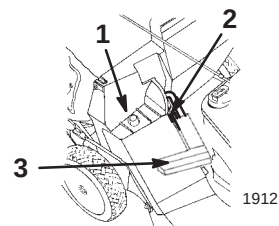
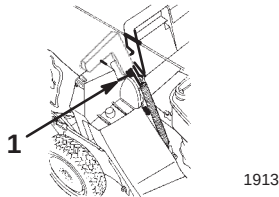

Figure 10
Figure 11
2. Ensure that the discharge door handle is fully forward and that the pin is engaged in the catch (Fig. 10).
- Slide the hole in the bag frame onto the retaining post on the discharge tunnel (Fig. 10).
- Open the discharge door by pulling the discharge door handle forward until the pin clears the ramp on the bag door and moving the handle rearward until the pin locks in the bag notch (Fig. 11).
- Pull the discharge door handle up and out of the bag notch (Fig. 11) and pull it forward until it engages the catch (Fig. 10).